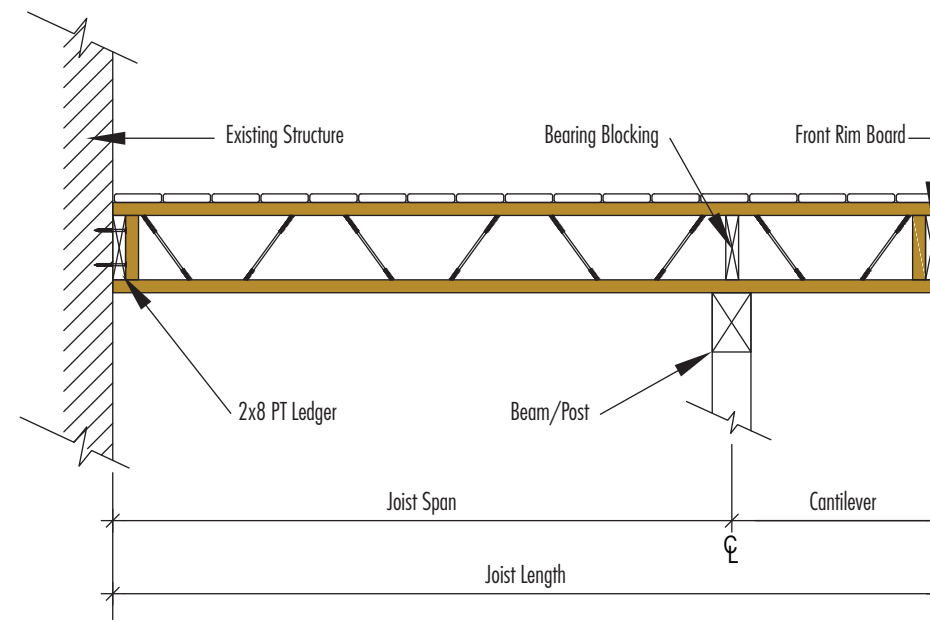

Figure 2
2. Max Joist Span refers to distance between ledger and bearing ("Joist Span" in Fig. 2)
3. Max Joist Length refers to overall joist length including cantilever up to 2' ("Joist Length" in Fig.2)